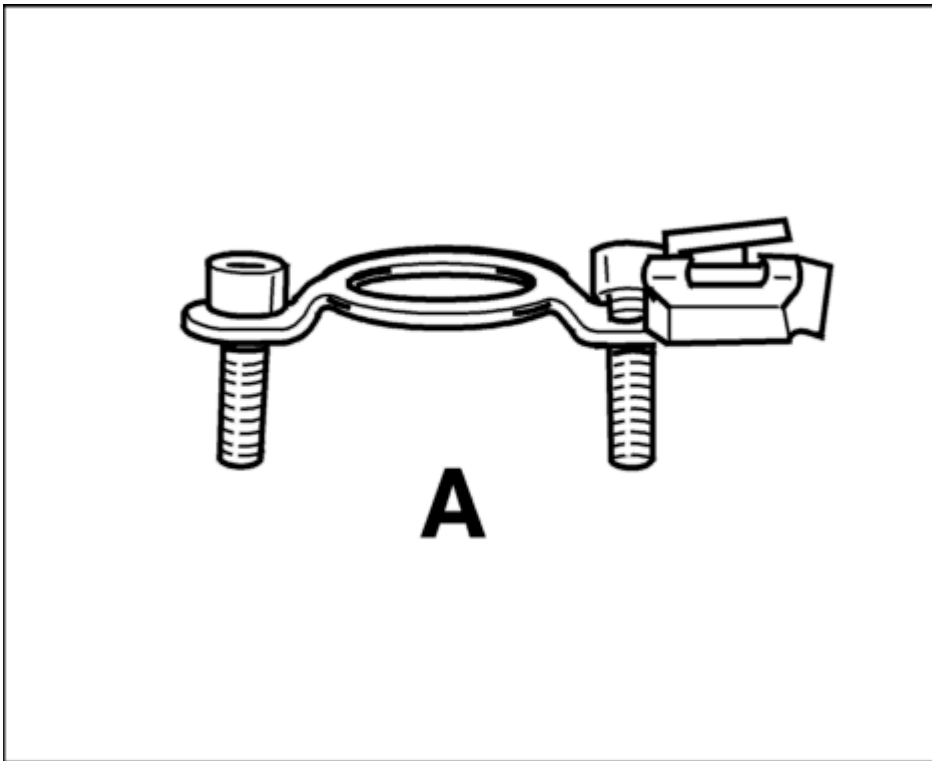

Fig. 168: Holder for solenoid hydraulic valve for camshaft timing
4. Position two M6 x 20 inner Torx screws complete with holder -A- on the valve and tighten the screws. Observe installation position of the cable terminal (to intake distributor). --> **Tightening torque: 7.5 ftlb.** . See **Fig. 168.**